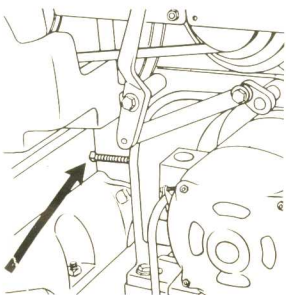
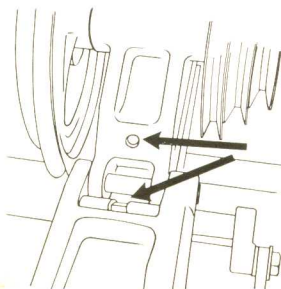

Figure 2
Figure 3
Turn 3" long square head set screw and jam nut into countershaft bracket so that square end can be adjusted against the bed (see Figure 2) and mount countershaft assembly on stand or bench—make sure pin (item 9, page 13) is inserted in countershaft arm and rests on rocker shaft (see Figure 3) and countershaft is parallel with the spindle and the pulleys are in line. Adjust square set screw against bed and lock with jam nut.